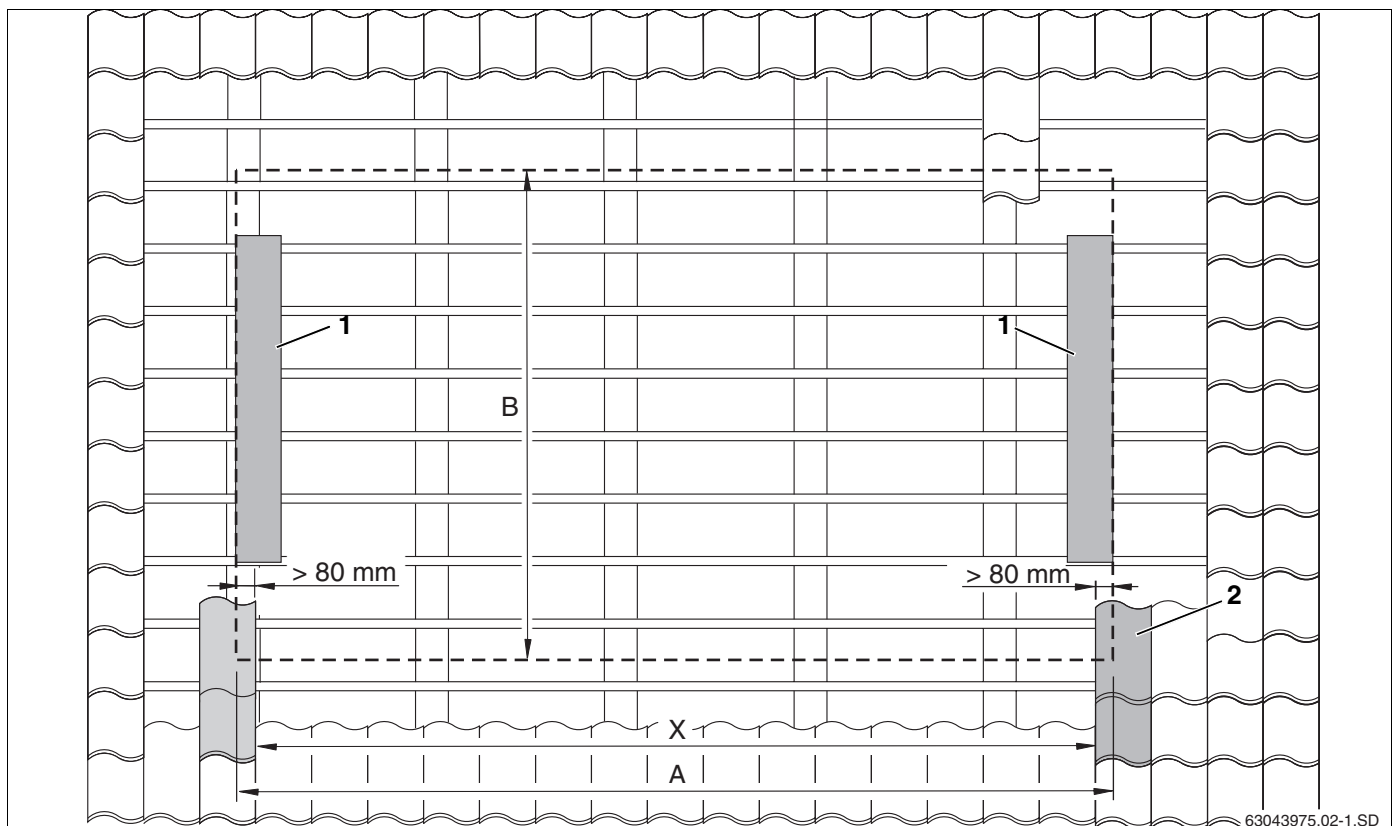

Fig. 8 Determining the exact position of the collector array
- Determine dim. X (distance between the tiles that lie on the side facing panels, Fig. 8, **Item 1**) on the roof and mark it on the roof.
- Determine the lowest row of tiles (Fig. 8, **Item 2** taking dimension B into account (Fig. 8)).